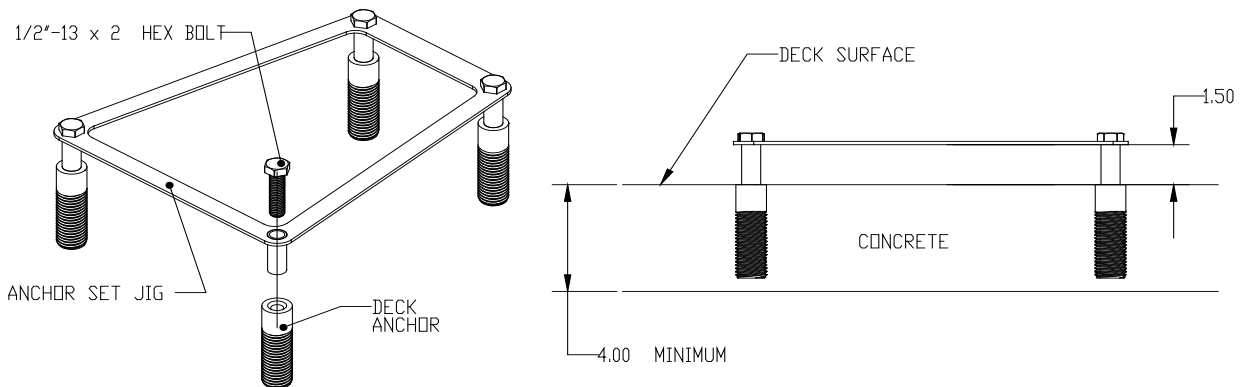

Figure 22
8. The multiLift2 Anchor Jig must be used to ensure that the anchors are held in the correct position until the epoxy is cured. To use the Anchor Jig, place the 1/2"-13 X 2" Hex Bolts through the tubes in the Anchor Jig and thread the bolts into the anchors until the top surface of the anchors contact the bottom of the Anchor Jig tubes. See Figure 22.